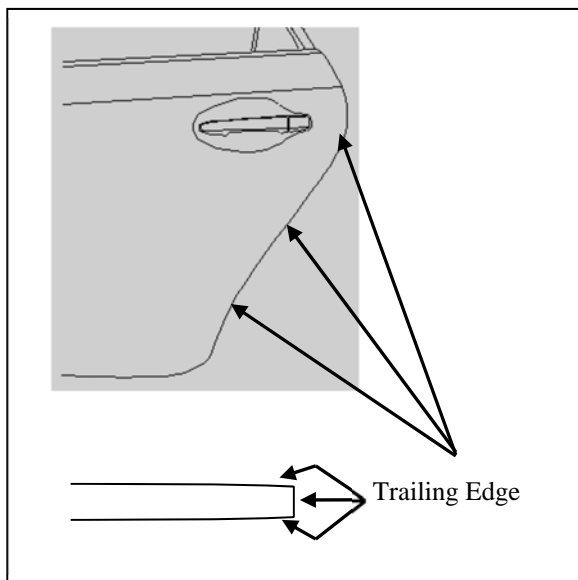

Fig. 1-1
(1) Fully open the rear driver side door.
(2) Using 2 (two) lint free cloths:
- a. Spray three to four pumps of Simple Green (or VDC approved cleaner) onto a lint free towel and pinch the wet towel between your thumb and forefinger while running along the length of the door edge to clean the inside and outside of the trailing edge of door. Make several passes to ensure the wax and oil has been removed (Fig. 1-1).